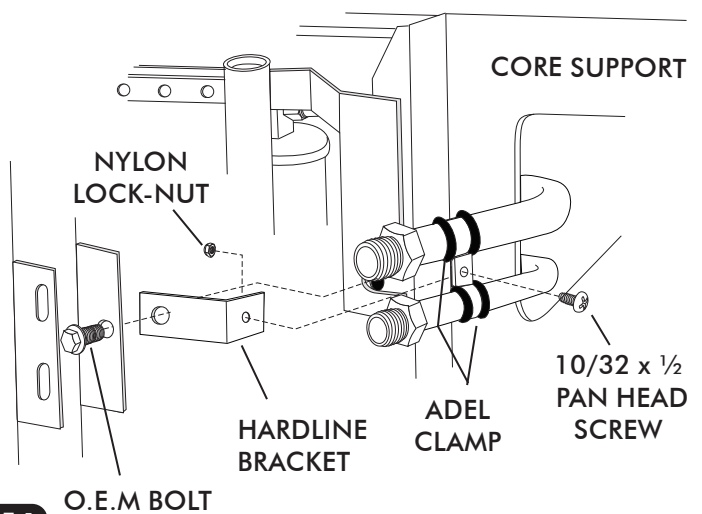

FIGURE 1
- WITH THE RADIATOR AND CONDENSER IN PLACE, LUBRICATE THE #8 O-RING. SEE FIG. 2 BELOW. INSTALL THE #8 CONDENSER HARDLINE AND ROUTE THRU CORE SUPPORT. SEE FIG. 1 BELOW.
- LUBRICATE THE #6 O-RING. SEE FIGURE 2 BELOW. INSTALL THE #6 DRIER HARDLINE AND ROUTE THROUGH CORE SUPPORT. SEE FIG. 1 BELOW.